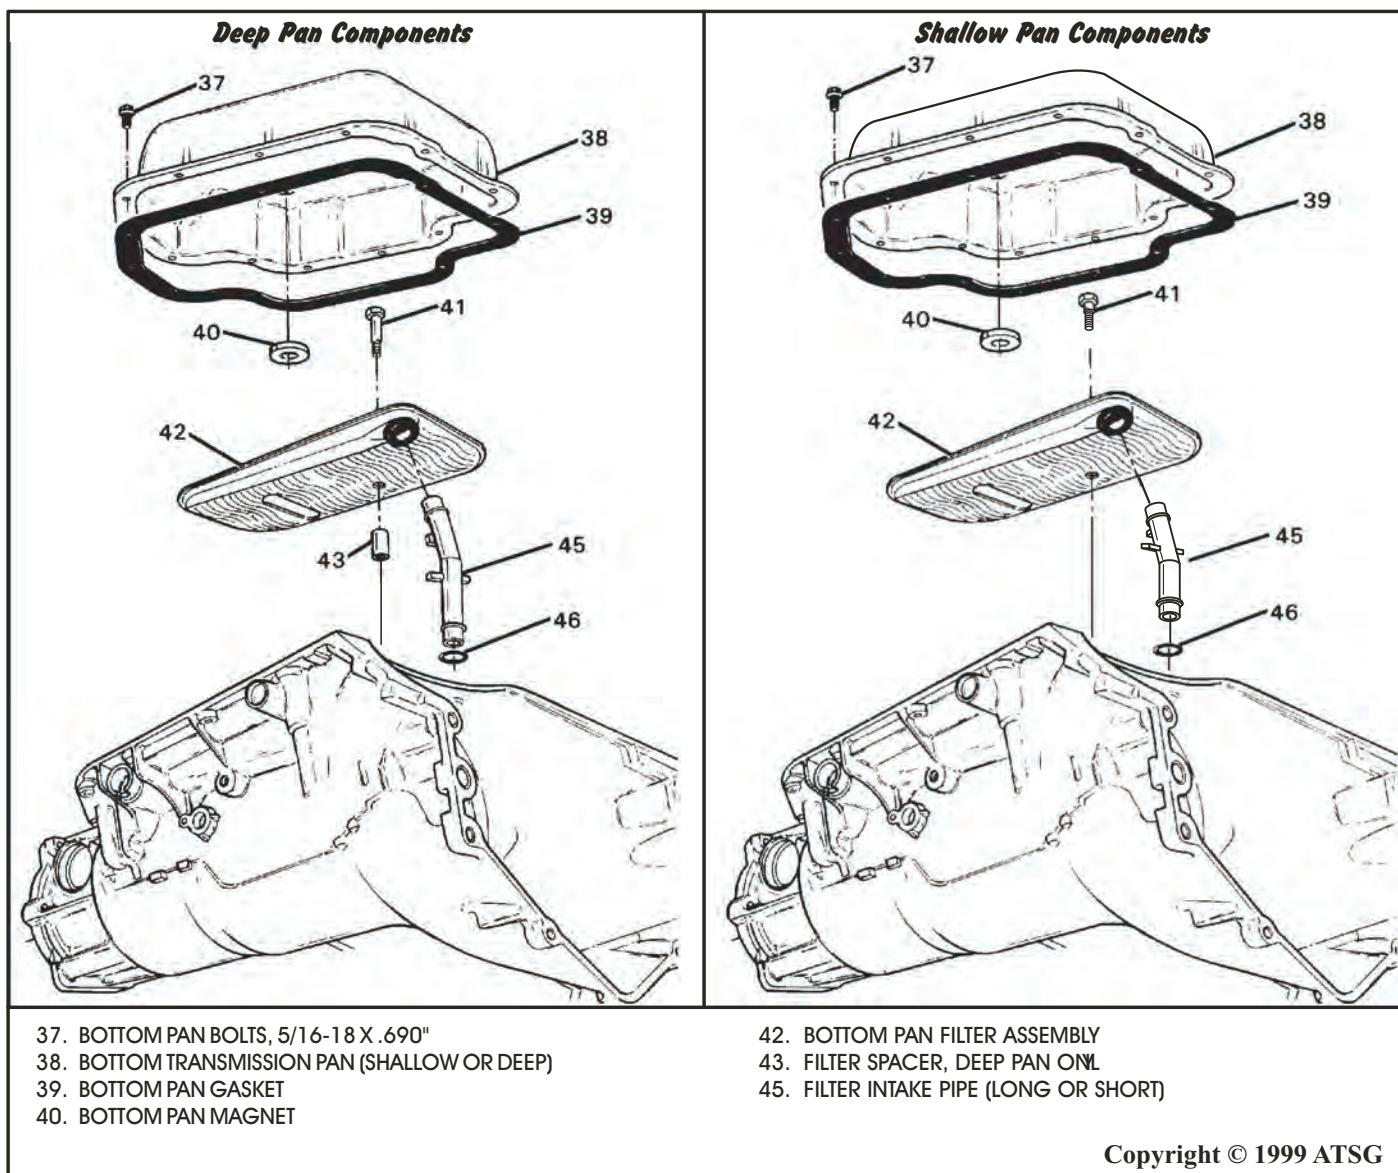

Figure 127
62. Install a new bottom pan gasket onto the case as shown in Figure 127.
63. Install a new "O" ring onto proper filter intake pipe, lube with small amount of TransJel and install intake pipe into case (See Figure 127). **Notice in Figure 127 that the intake pipe for shallow pan is shorter than the intake pipe for the deep pan.**
64. Install new filter assembly on intake pipe and install filter bolt and spacer if used, as shown in Figure 127.
66. Install the magnet into the proper bottom oil pan, as shown in Figure 127.
67. Install the proper bottom oil pan onto the case as shown in Figure 127.